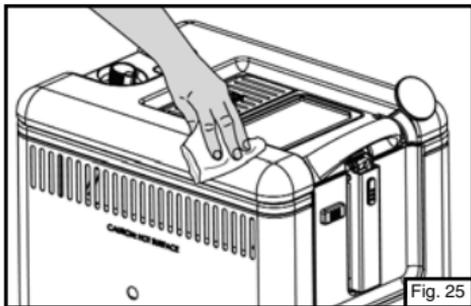

Fig. 25
- Wipe the inside and outside surfaces clean with a soft cloth and mild dish detergent. Do not use abrasives (Fig. 25).